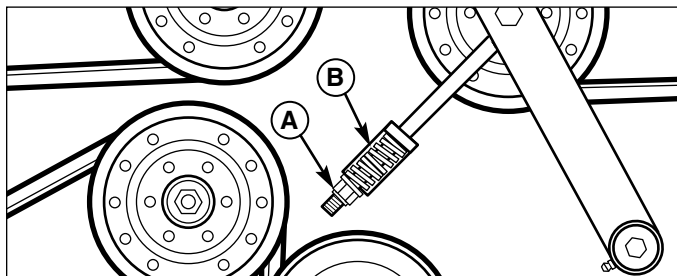

Figure 2. PTO Mower Drive Belt
1. Raise the floor pan and loosen the spring compression nut (A, Figure 2) to release the belt tension.
2. Reinstall the mower deck drive belt on the new spindle pulley. Tighten the spring compression nut (A, Figure 2) until the idler spring (B, Figure 2) is compressed to 1-5/8" (4,12cm) long. Be sure the measure the spring only.